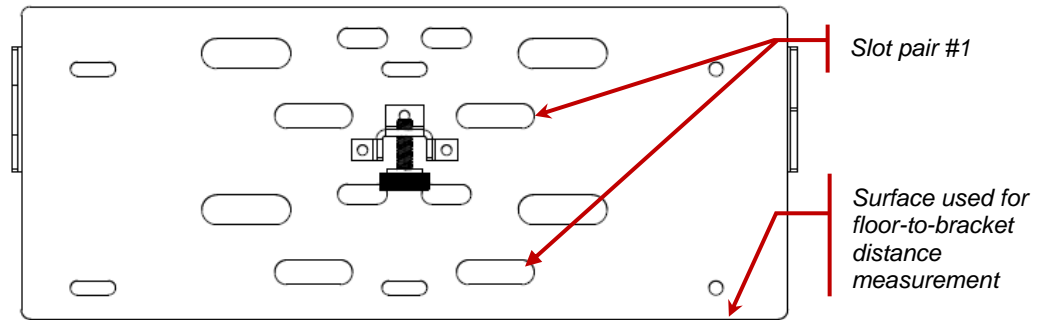

Figure 8 Mounting Bracket with Measurement Surface
2. Position the bottom of the mounting bracket at least 2.3m (90.5") from the floor. Refer to Figure 8.